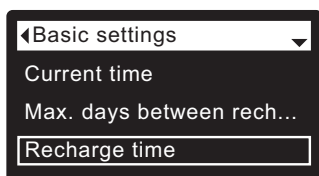

FIG. 50
3. Press the SELECT (O) button to display the Basic settings menu (See Figure 50).
7. Press the SELECT (O) button. The display will go back to the Basic settings menu (Figure 50).